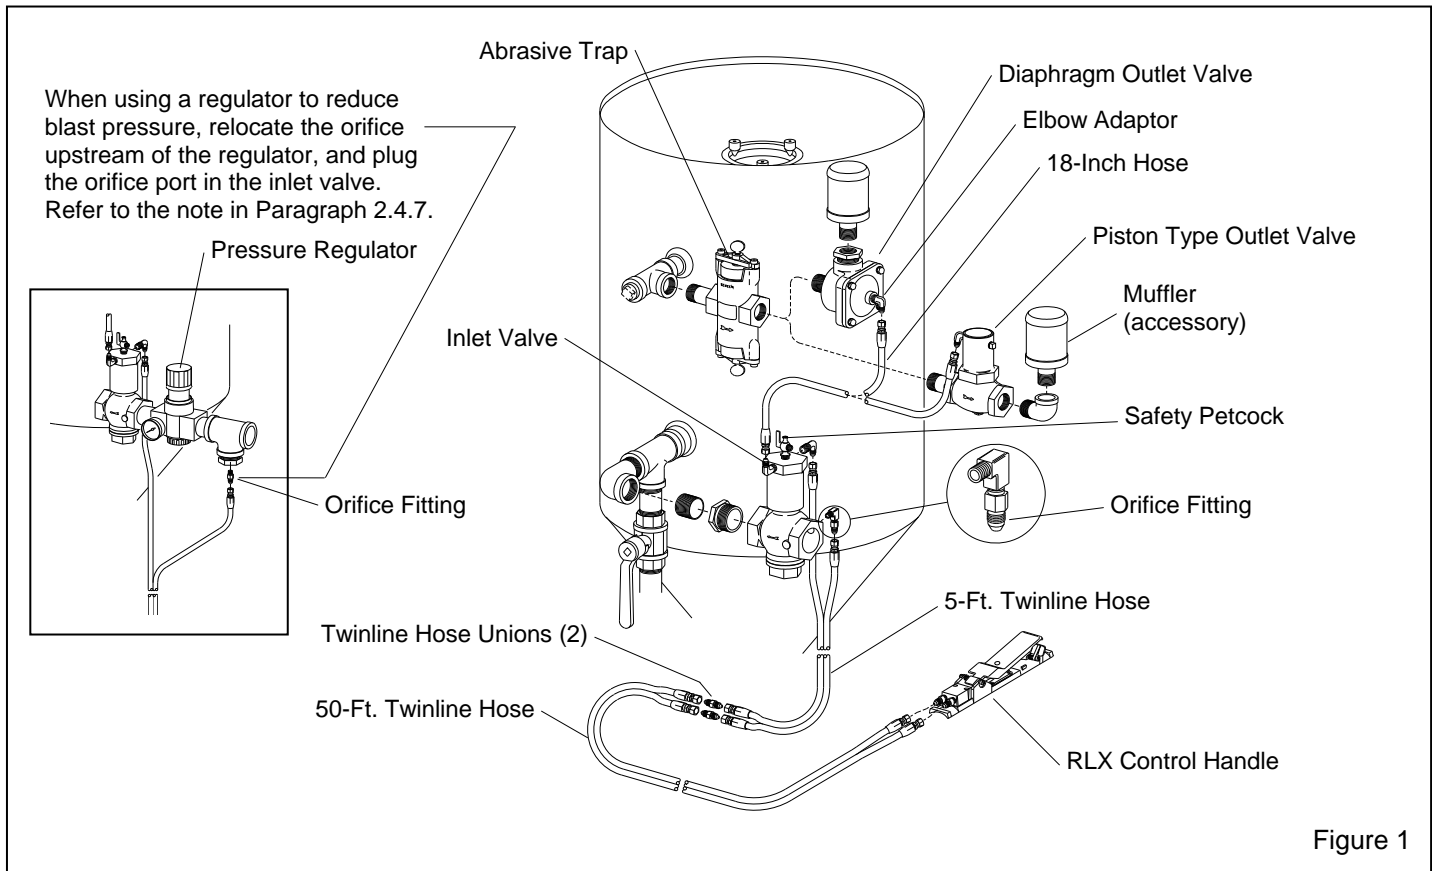

Figure 1
**1.3.2** The components of a standard system are shown in Figure 1. They include the inlet valve, piston or diaphragm outlet valve (the piston valve is used in most applications, the diaphragm valve is recommended for use with fine mesh, or aggressive abrasive), RLX Control Handle, 55-ft. and 5-ft. long twinline control hoses, 2 control hose unions, and an 18-in. long interconnecting hose.
**1.4.1** Clemco TLR Remote Controls operate pneumatically on return air (See Figure 1). If the control handle lever (the main activator of the system) is in the up (no blast) position, one stream of air travels down the outbound side of the twinline and escapes through an opening located under the lever. The normally-closed inlet valve remains closed, and the normally-open outlet valve remains open. When the control handle lever is pressed, the opening is sealed, and air in the outbound line returns through the inbound line to open the inlet valve and close the outlet valve. This action pressurizes the blast machine and begins the blasting process. Releasing the handle exhausts the control air, which closes the inlet valve, and opens the outlet valve to depressurize the blast machine and stop the blasting.
**2.2 Field Installation:** Refer to Figure 1.
**2.2.3** Install the abrasive trap on the blast machine as shown in Figure 1. The air flow directional arrow points away from the machine, and with the screen end up and clean-out down.
**2.2.4.1** Piston outlet valves must have the directional arrow pointing away from the abrasive trap. Attach an elbow and optional muffler. The muffler must face up as shown in Figure 1.
Clemco supplies an exhaust muffler with all blast machines of 2 cu. ft. capacity and larger. The muffler reduces exhaust noise and prevents abrasive from exhausting upward or sideways into the air. When the blast machine is depressurized, the muffler body will pop up to diffuse the air and abrasive. When the machine is fully depressurized, the muffler body will drop, permitting trapped abrasive to empty. For the muffler to work properly, it must be installed with the body facing up, as shown in Figure 1.
**2.4.7** Attach the 5-ft. twinline control hose to the inlet valve as shown in Figure 1. One side of the hose connects to the unused upper elbow, the other to the orifice fitting. NOTE: When using a pressure regulator to reduce blast pressure below 80 psi, relocate the orifice upstream of the regulator as shown in the insert in Figure 1, and plug the orifice port in the inlet valve. This allows the pneumatic control circuit to operate at line pressure.